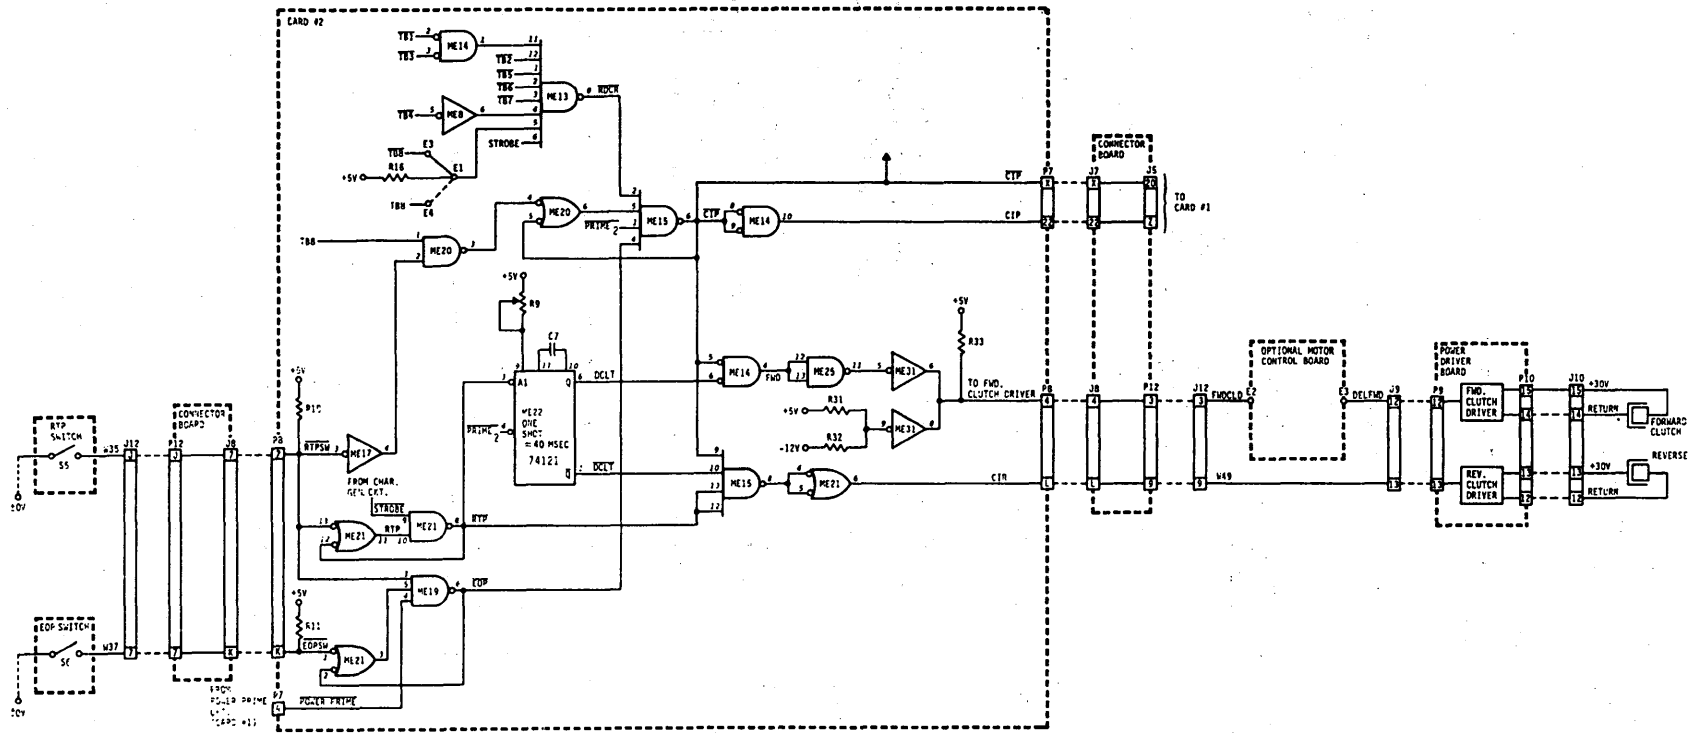

Figure 4-14. FORWARD AND REVERSE CLUTCH DRIVE CIRCUITS
4.5.1 INITIATING THE PRINTING OPERATION (FIGURE 4-14)
4.5.2 PRINT HEAD MOTION (FIGURE 4-14; SCHEMATIC - SECTION 7)